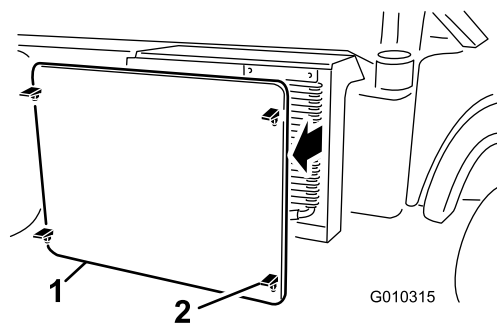

Figure 68
5. Unlatch and remove the radiator screen from the front of the radiator (Figure 68).